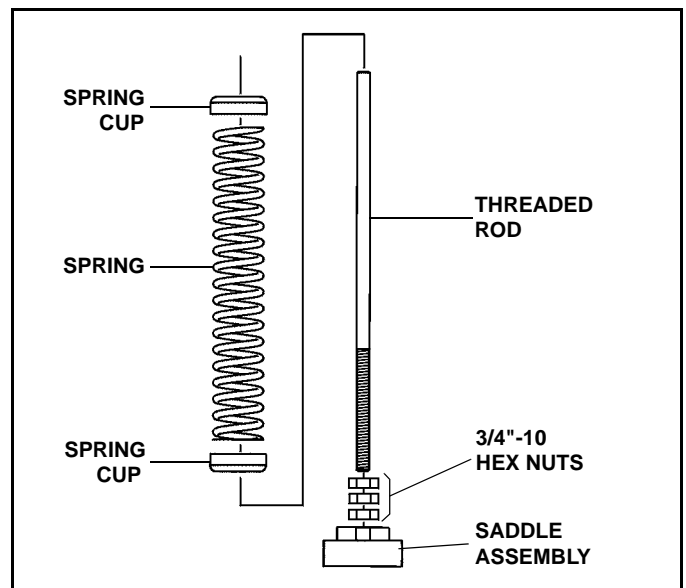

Figure 1-10
5. Assemble the trip springs (See Figure 1-10):